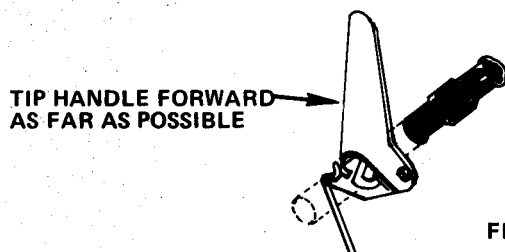

FIGURE 3
- Position the clutch handle so that it is all the way up. See figure 3.) Tighten the tractor clutch rod in the rod adapter with the setscrew.